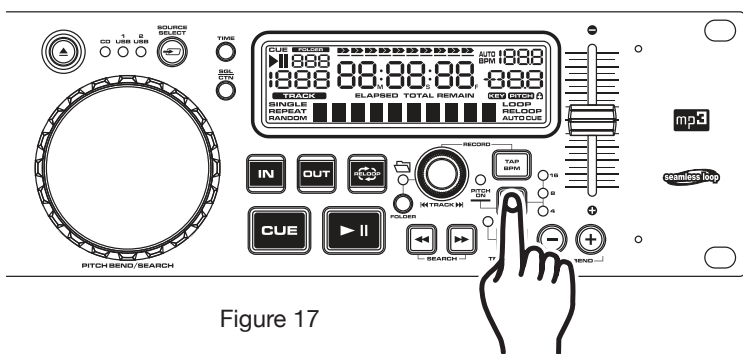

Figure 17
Using the Pitch Slider Percentage Selector (10): You may choose a pitch operating range at any time. To change the operating range be sure the pitch function is turned on, see figure 17. The pitch percentage can be changed between +/-4%, +/-8%, +/-16%, and 100%. 4% will allow the least amount of pitch manipulation and 100% will allow the most amount of pitch manipulation. To adjust the different values, press the *PITCH ON/OFF BUTTON* (10) and Tap on the *% BUTTON* (10) until your desired value is reached. The L.E.D. of the *% BUTTON* (10); glowing yellow for 4%, glowing green for 8%, or glowing red for 16%, and all LEDs glowing for 100%.